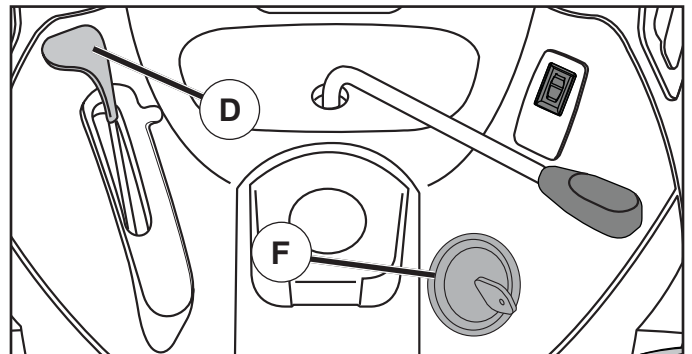

Fig. 6
- Move throttle control (D) to fast position.
- Turn ignition key (F) to "STOP" position and remove key. Always remove key when leaving tractor to prevent unauthorized use.
### TO USE THROTTLE CONTROL (D) (See Fig. 6)